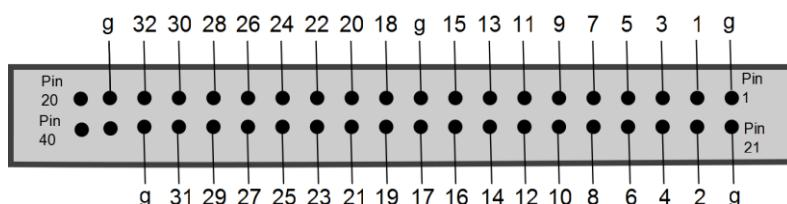

Figure 2-4: CereStim R96 Cable Connector Layout
CereStim R96 Cable Connectors (9): Connectors A-C provide a connection between the CereStim R96 and the Stim Switch/Electrodes. Connector A corresponds with electrode output channels 1-32, connector B with channels 33-64 and connector C with channels 65-96. Instructions for connecting the CereStim R96 to a Switching System are provided in Section 4 below. The layout of the CereStim R96 Cable Connector is shown in Figure 2-4 below.
- 2.4.2.6 Connect one end of the customer supplied cables to the CereStim R96 Cable Connectors on the Back Panel of the CereStim R96. Connect the other end of the cables directly to the connectors on the patient electrodes. Refer to Figure 2-4 for a pinout of the locking connector on the CereStim R96.